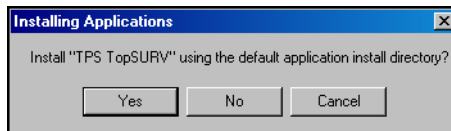

Figure 1-9. Installing TopSURV
11. Click **Yes** at the *Installing Applications* screen (Figure 1-9) to install TopSURV into the default directory in the controller.